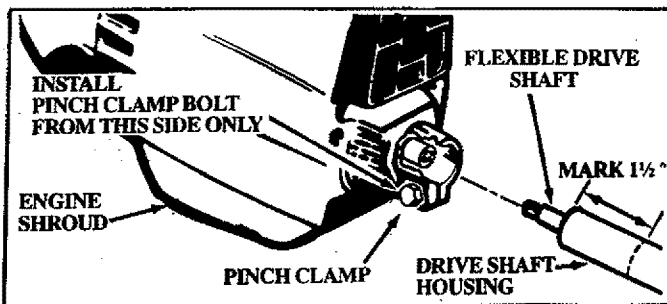

Figure 4
### 3. DRIVE SHAFT HOUSING — Figure 4
- b. Mark a line 1-1/2 inches from the straight end of the Drive Shaft Housing. Figure 4.
- c. Loosen (but do not remove) the Pinch Clamp Bolt on the Engine Shroud. Figure 4.
- f. Firmly push the Drive Shaft Housing into the Engine Shroud until it bottoms out, approximately at the 1-1/2" mark. Figure 4.